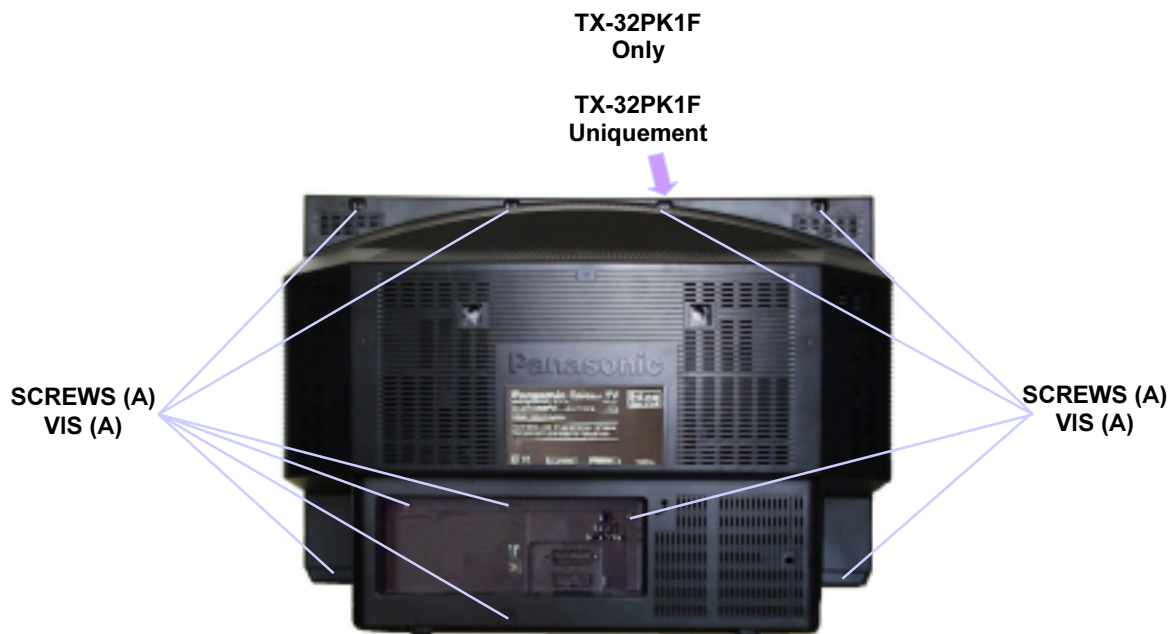

Fig.2.
1. Remove the 10 {9} screws (A) as shown in Fig.2.
1. Retirer les 10 {9} vis (A) comme sur la Fig.2.